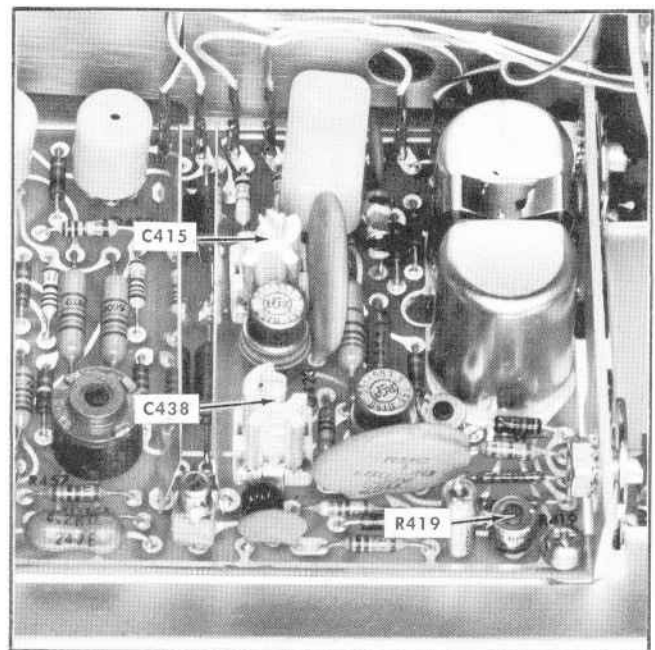

Fig. 6-26. Location of amplifier common-mode balance adjustments (step 29).
- Adjust the Upper Beam Amplifier common-mode balance adjustments as directed in Table 6-10. (See Fig. 6-26 for the location of these adjustments.)